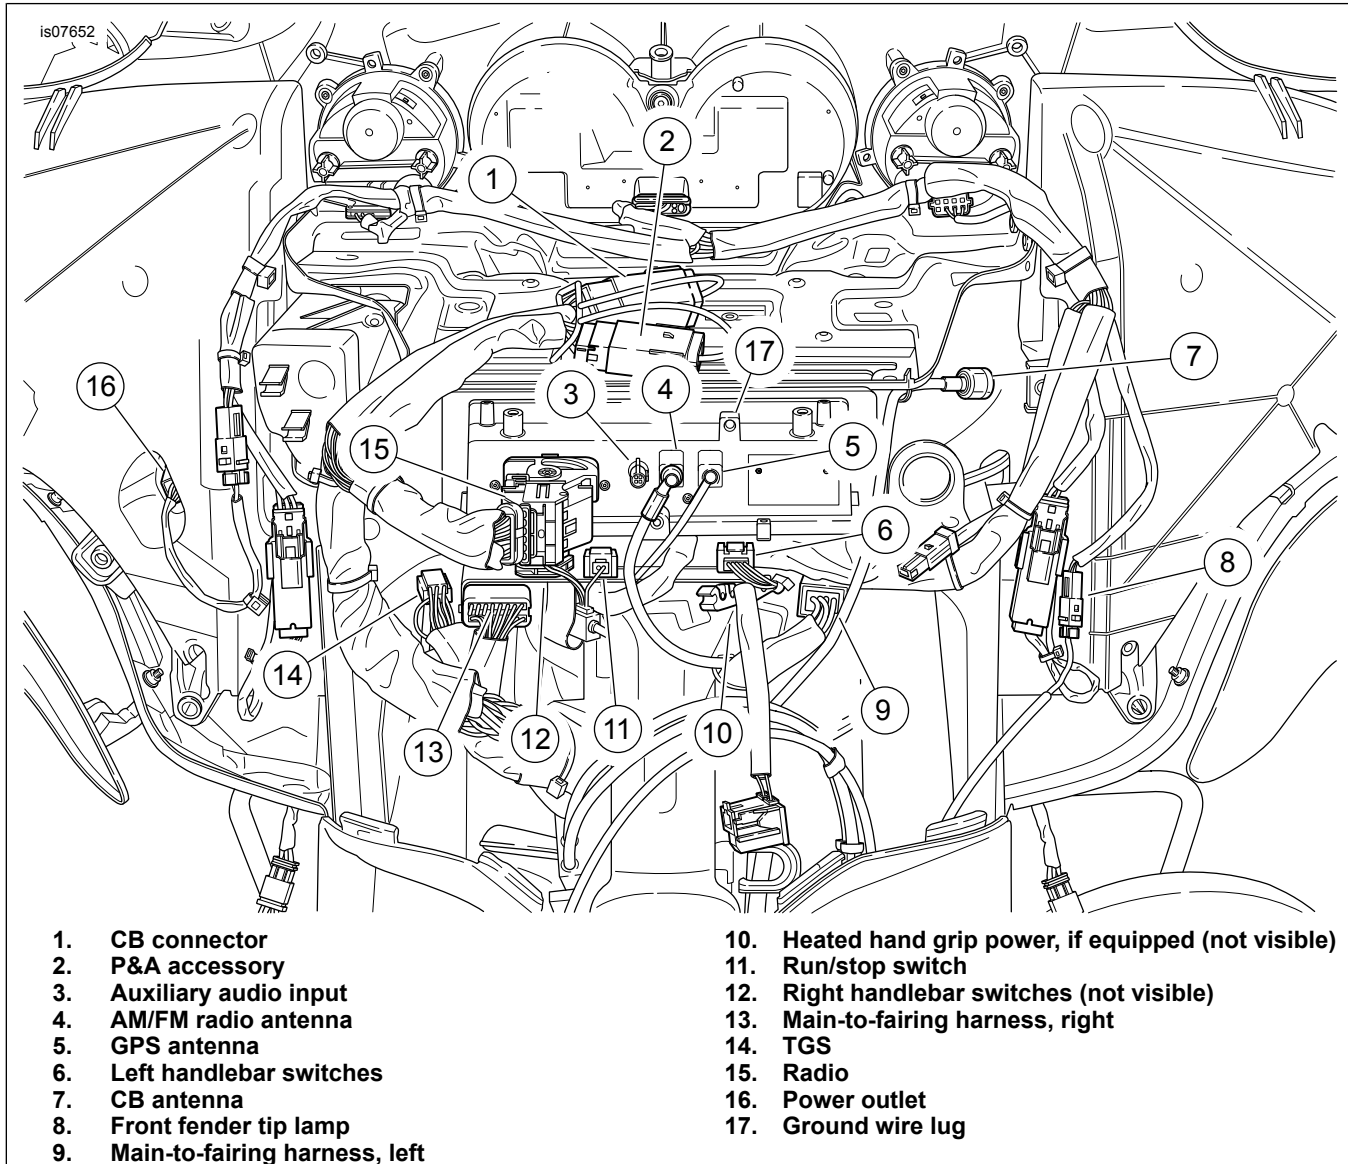
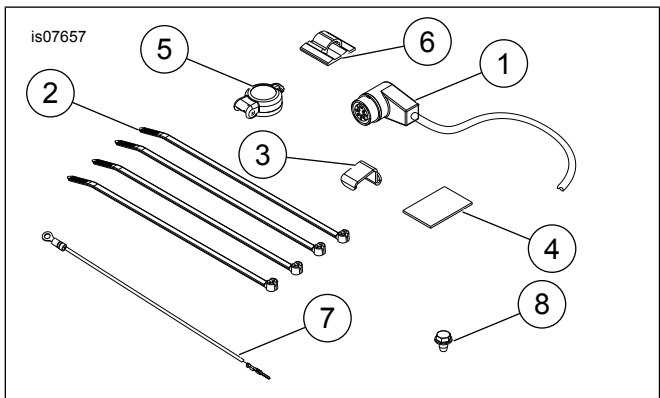

Figure 1. Inner Fairing Harness Connectors
Figure 3. Service Parts: Rider Headset Connector Kit
See Figure 3 and Table 1.
See Figure 1. Location of connectors (1 and 2) may be different if amplifier is installed.
1. See Figure 1. Install ring terminal end of ground wire (Figure 3, item 7) to ground wire lug (17) with screw (Figure 3, item 8).
2. Remove seal pin from cavity 12 of P&A connector [280] (2).
- a. **MY18 and Touring models:** Remove wire from cavity 12 of P&A connector [280] (2).
4. Connect the rider headset harness (Figure 3, item 1) to the P&A connector (2).